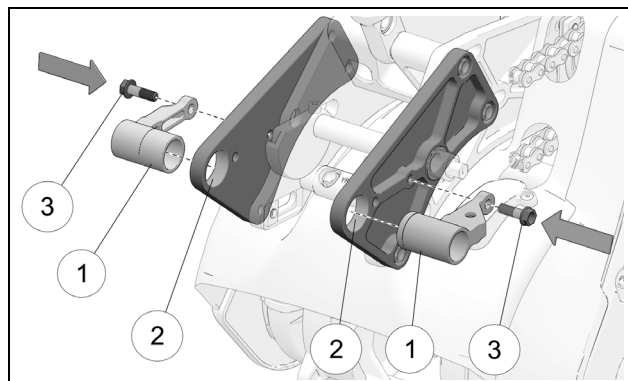

Figure 17
- Place mount adapters (1) in position outside of Bike Mount (2). Finger tighten the temporary M8x25mm assembly bolts (3) provided, at the small end of the adapters. See Figure 17.